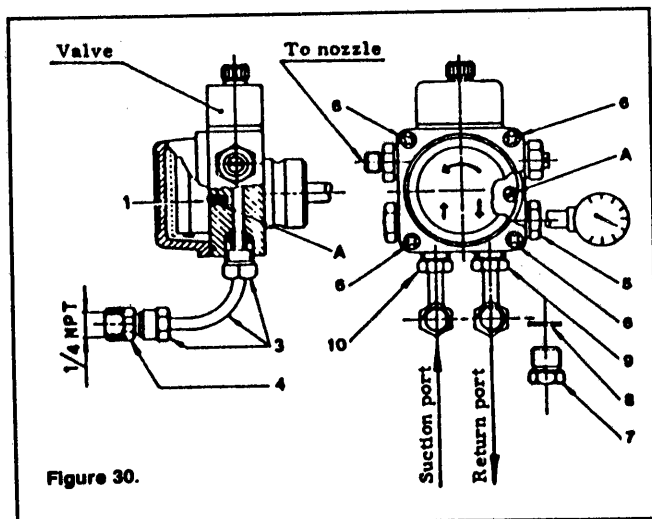

Figure 30.
1. With Riello Burners — Riello burners are shipped with the pump set up for a two pipe system. Unless the oil tank is located below the burner such that a lift system must be used, the pump should be converted to a one pipe, gravity feed system as follows: (Refer to Figure 30 below)
- a) Removal of By-Pass Plug (see Figure 30.)
Fuel pump is factory preset at 146 psi. To read system pressure, install pressure gauge in port 5, Figure 30.
- i) Connect both pipe connectors supplied, one to Suction port 10, and the other to Return port 9, on the pump. (see Figure 30.)